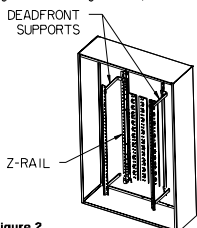
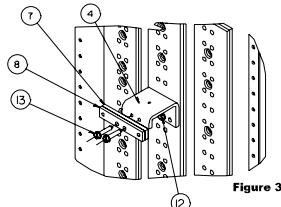
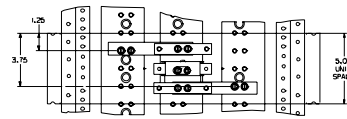
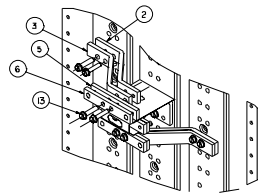

Figure 2
Figure 3
Figure 4
Figure 6
3. Reference fig. 2 - To mount a VL DG Frame breaker, 5" of empty unit space is required. To locate the mounting position, measure from the top deadfront support to the top of the empty unit space filler on the deadfront. Transfer this dimension from the deadfront support along the Z-rail and mark. This will be the unit space as shown on Fig. 4. After marking the Z-rail, remove the deadfront.
5. Reference fig. 3 and fig. 4 - The first items to be installed are the B-phase strap and B-phase links (item 4, item 7 and item 8). Note that the 0.281" holes on the B-phase links (item 7 and 8) are offset and are not symmetrical as in A and C-phase links (items 5 and 6). Locate two 0.228" diameter holes on the B-phase of the section bus, 3.75" down from the top of 5.0" unit space selected. Insert two 1/4-20 thread-forming screws (see the mounting hardware kit, item 12, for proper length) through the two holes in the B-phase strap (item 4) and then into the 0.228" diameter holes on the B-phase bus and tighten. Orient the B-phase links as shown in fig. 3 with the 0.281" holes located away from the bend on the B phase strap (item 4). To install the B-phase links, insert two 1/4-20X1-1/4" screws (item 13) through two 0.281" holes on B top and bottom links (item 7 and item 8) and then into the 0.228" diameter holes on the B-phase strap and tighten. Torque all screws to the values specified on the rear of the deadfront.
7. Reference fig. 4 and fig. 6 - Locate two 0.228" diameter holes in the A-phase section bus, 1-1/4" down from the top of 5.0" unit space selected. Insert two 1/4-20 thread-forming screws (see the mounting hardware kit, item 12, for proper length) through the two holes in the A-phase bus and tighten. To install the C-phase strap (item 2 and 3) locate two 0.228" diameter holes on the C-phase section bus 3.75" down from the top of 5.0" unit space selected. Insert two more 1/4-20 screws through the two holes in the strap and then into the 0.228" diameter holes in the C-phase section bus. To install A and C-phase links (item 5 and 6) repeat the installation steps similar to B-phase links installation, orienting the link bars as shown so as to have 1.375" vertically between centers of the link bars. Torque all screws to the values specified on the rear of the deadfront.